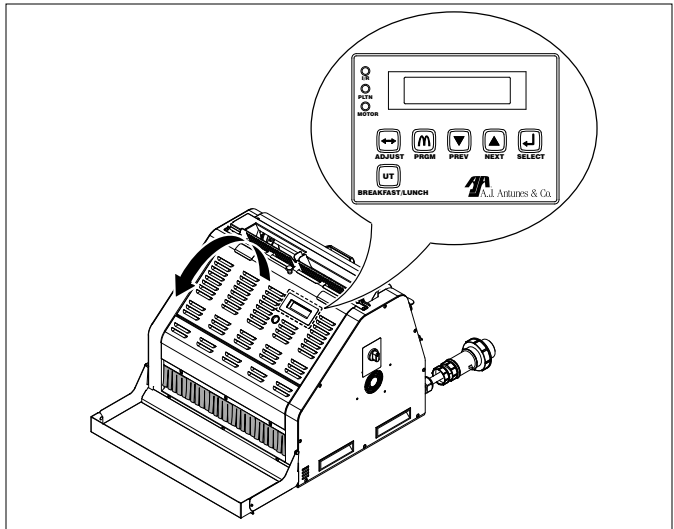

Figure 3. Accessing the UTX-200L Control Panel
1. Open the Front Cover to access the Control Panel (Figures 3 and 4).